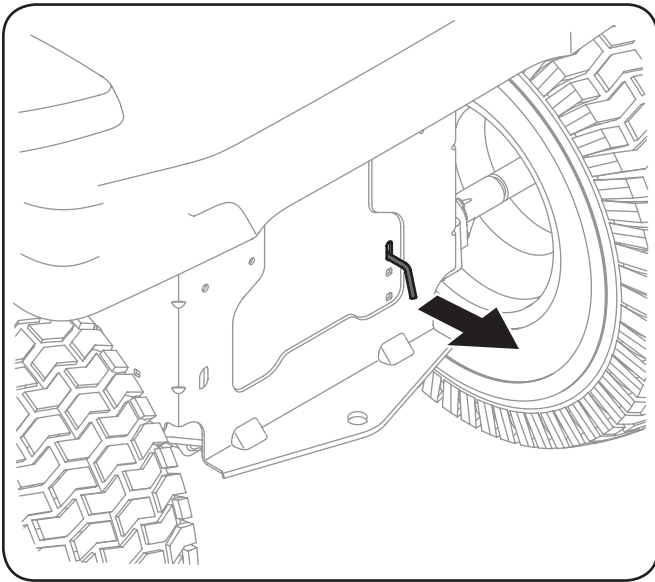

Figure 1
1. Engage the transmission bypass rod to move the tractor manually without starting it. The transmission bypass rod is located on the rear of the tractor, on the frame. Engage the bypass rod by pulling out. See Figure 1.
2. Disengage the bypass rod by pushing the rod back in after moving the tractor. See Figure 1.